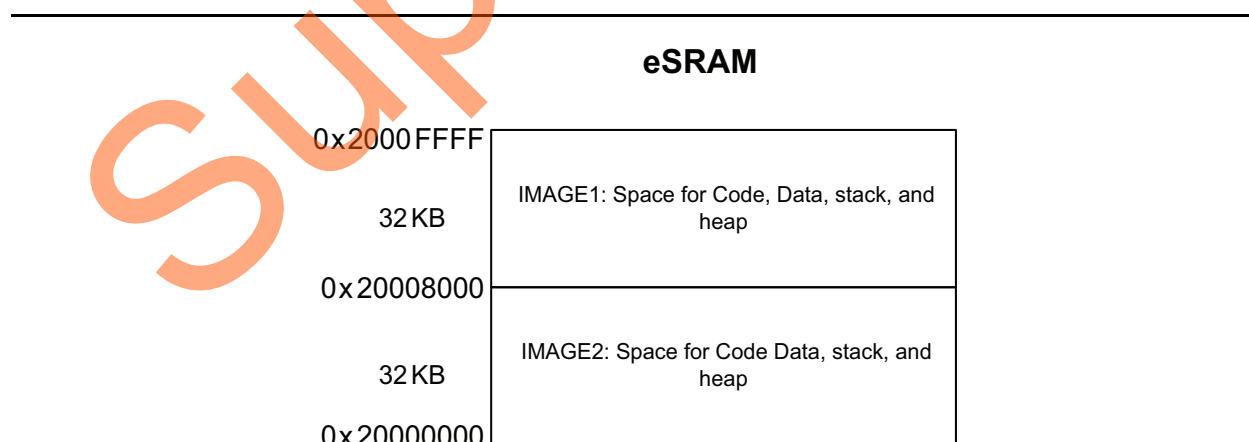
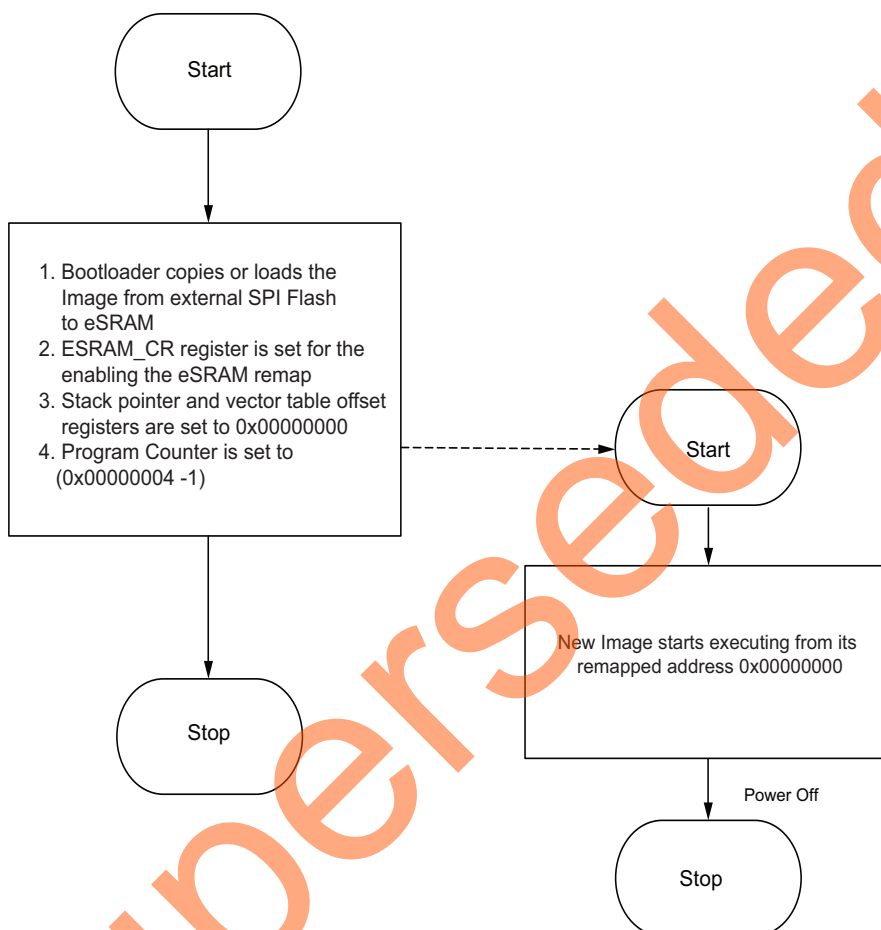

Figure 11 • Example Scenario of Multiple Executable Images in eSRAM
Figure 13 • Logic for Moving the Execution Control to New Image in eSRAM with Remapping
Figure 11 shows the example scenario of the executable images in eSRAM regions.
The above scenario, shown in Figure 11, describes two images which can be remapped to the bottom (0x0000_0000) of the Cortex-M3 processor or can be made executable for the Cortex-M3 processor. To create the independent executable images with required memory map, the linker scripts need to be created with required memory map. The linker scripts are provided in the "Appendix A – Design Files" section. Once the images are created for the required memory map in Production mode, these images are to be copied to an external memory like SPI Flash/eNVM, and are code shadowed by the bootloader to the eSRAM whenever it is required to execute the new images.
- **With Remapping:** In this approach, the new image address can be remapped to the bottom (0x0000_0000) of the Cortex-M3 processor by using the ESRAM_CR registers. As the new image address is remapped to bottom (0x0000_0000) of the Cortex-M3 processor code region the linker scripts take care of building the images from the bottom (0x0000_0000) code region. The eSRAM address should not be used instead offset address from zero has to be used in the linker scripts for this approach. This approach is explained in the flow chart shown in Figure 13.
For example, for the memory map of the different images explained in the Figure 11, the images are built with 0x00000000 as base address. If it is required to jump from the Image 2 to Image 1 then use the following steps (as explained in the Figure 13).